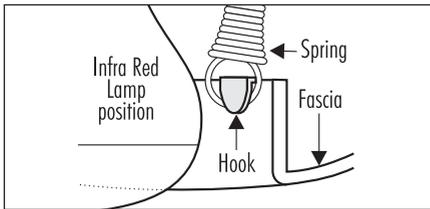

Fig. 15 – 11511, 11532
1. Model 11511, 11532 fit fascia into position and hook coil-spring onto fascia as per Fig. 15. Model 12511 has a snap-on fascia, however the lamps and centre globe must be fitted in these models prior to the fascia. The legs of the lamp surround must rest freely on the ceiling. A clearance of approximately 3-5 mm should exist between the ceiling and outer rim of surround.